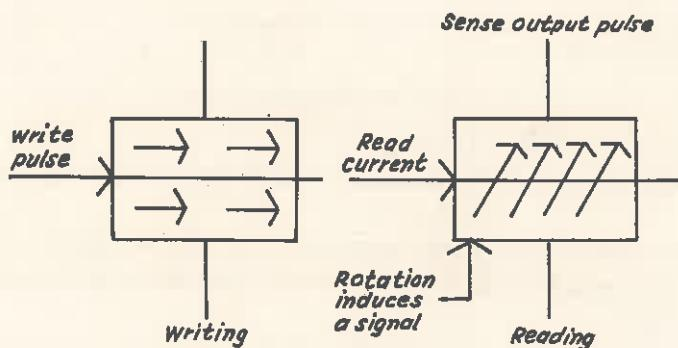

Fig. 36.26. Thin film memory
(2) Thin film memory
- Applying a current which causes the polarity to rotate but not to flip, induces a current which indicates whether a 1 (one) or 0 (zero) was stored (Fig. 36.26). After the sense field is removed, polarity is returned to its prior state by a digit pulse which steers the polarity back to a 1 or 0 state.